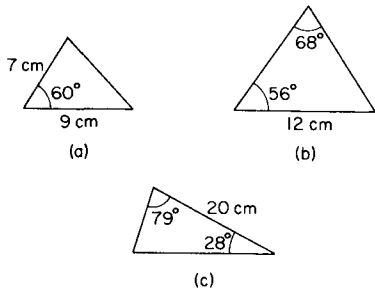

Fig. 3.22
9. Construct the triangles shown in Fig. 3.22.